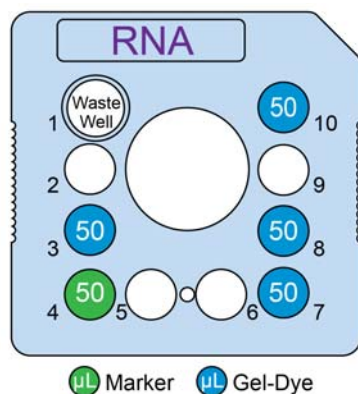
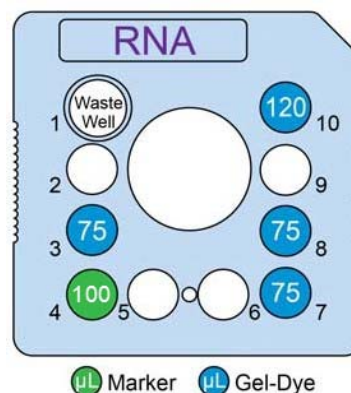

Figure 2. Low-throughput chip preparation.
Figure 3. High-throughput chip preparation.
- 5 Using a reverse pipetting technique, add Gel-Dye solution to chip wells 3, 7, 8 and 10 as shown in Figure 2 (Low-throughput) or Figure 3 (High-throughput).
- 6** Add 50 μL (Low-throughput) or 100 μL (High-throughput) of RNA Pico Marker (green cap ●) to chip well 4 as shown in Figure 2 or Figure 3.